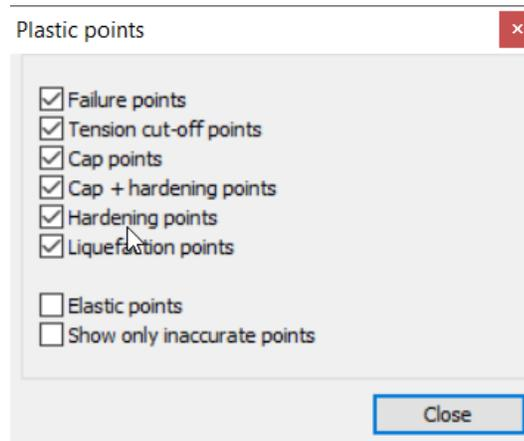

Figure 36: Plastic points window
3. In the **Plastic points** window, select all the options except the **Elastic points** and the **Show only inaccurate points** options (See Figure 36 (on page 57)).